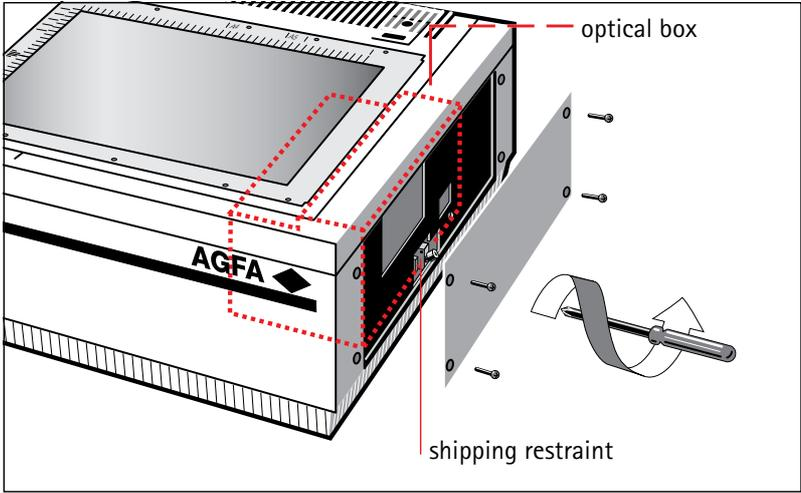

Figure 1-2
1. Remove the panel at the right side of the scanner by loosening the four screws, as shown in Figure 1-2.